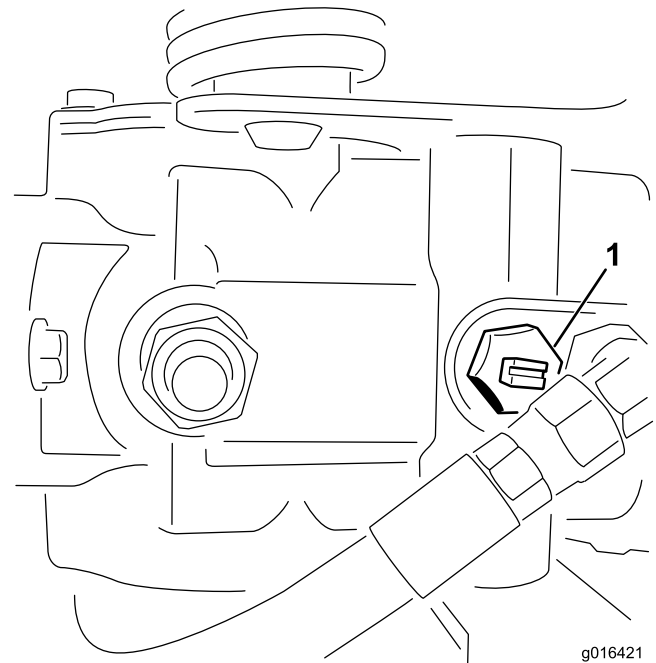

Figure 32
1. Locate the bypass valve on the pump and rotate it so that the slot is vertical (Figure 32).
2. Before starting the engine, close the bypass valve by rotating it so that the slot is horizontal (Figure 32).